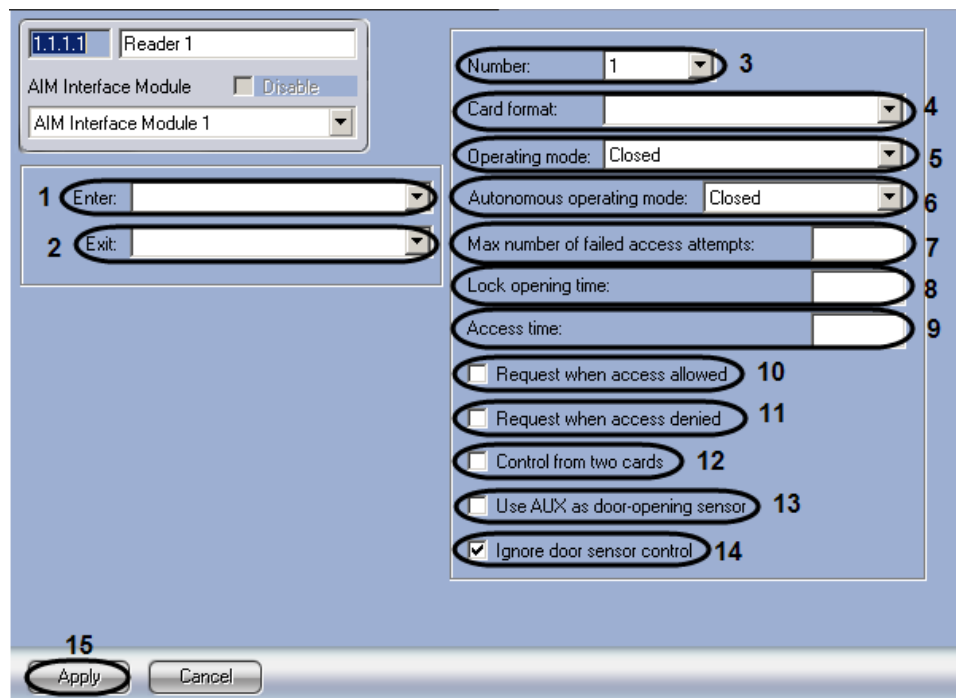

Fig.3.5-2 Reader object's settings pane
- Go to the **Reader** object's settings panel (Fig.3.5-2).
2. From the **Enter** dropdown list select the **Section** object that corresponds to the area to which this reader enters (see Fig.3.5-2, **1**).
3. From the **Exit** dropdown list select the **Section** object that corresponds to the area to which this reader exits (see Fig.3.5-2, **2**).
4. From the **Number** dropdown list select the reader's index number (see Fig.3.5-2, **3**).
5. From the **Card format** dropdown list select a list of access card formats for this reader (see Fig.3.5-2, **4**).
6. From the **Operating mode** dropdown list select the reader's operating mode (see Fig.3.5-2, **5**, Table 3.5-1).
7. From the **Autonomous operating mode** dropdown list select the operating mode to be employed by the reader if the connection with the controller is lost (see Fig.3.5-2, **6**, Table 3.5-1).
8. In the **Max number of failed access attempts** field, enter the number of failed access attempts that can be made before a **Break-in Attempt** message is sent (see Fig.3.5-2, **7**).
9. In the **Lock opening time** field, enter the time period (in seconds) in which the lock will be unlocked (see Fig.3.5-2, **8**).
10. In the **Access time** field, enter the time allotted for access (see Fig.3.5-2, **9**).
11. Check the **Request when access allowed** checkbox if an access request must be sent to the operator when an access attempt has been made successfully (see Fig.3.5-2, **10**).
12. Check the **Request when access denied** checkbox if an access request must be sent to the operator when an access attempt has failed (see Fig.3.5-2, **11**).
13. Check the **Control from two cards** checkbox if access requires two access cards being presented (see Fig.3.5-2, **12**).
14. If the *AIM* module's auxiliary sensor *AUX* is to be used as the door-opening sensor, then check the corresponding option (see Fig.3.5-2, **13**).
15. If the door sensor should be ignored, then check the corresponding option (see Fig.3.5-2, **14**).
16. To save any changes made, click the **Apply** button (see Fig.3.5-2, **15**).
9. To save any changes made, click the **Apply** button (see Fig.3.5-2, **8**).